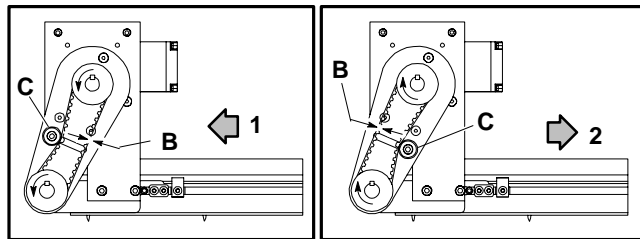

Figure 2
In addition, the conveyor belt can be driven in either one of two directions (1 or 2, Figure 2). Arrows show belt travel direction.
3. Attach the back guard plate (6) to the mounting plate using three M6 x 18 mm flat head cap screws (20).
4. Assemble drive and driven pulleys (10 or 11) and timing belt (14). Place a square key (23) into the keyway of the outboard shaft assembly (1) and a square key (24) in the keyway of the gearmotor. Install pulleys so that timing belt is centered on the belt tensioning roller assembly pulleys are in line with each other. Tighten the pulley set screws or Taper Lock® bushing screws (13), which fasten pulleys to the shafts. Determine which direction the conveyor belt is traveling and position the tensioning roller assembly (C of Figure 2) accordingly.
5. Adjust timing belt tension by loosening the M8 x 40 mm socket head cap screw (19) and sliding the belt tensioning roller assembly against the belt. Tension should be measured at mid-point (B) on the tension side of the timing belt. As a starting point for the tensioning process, there should be 1/8" (3 mm) deflection with 1 lb (500 g or 4.3 N) of force.